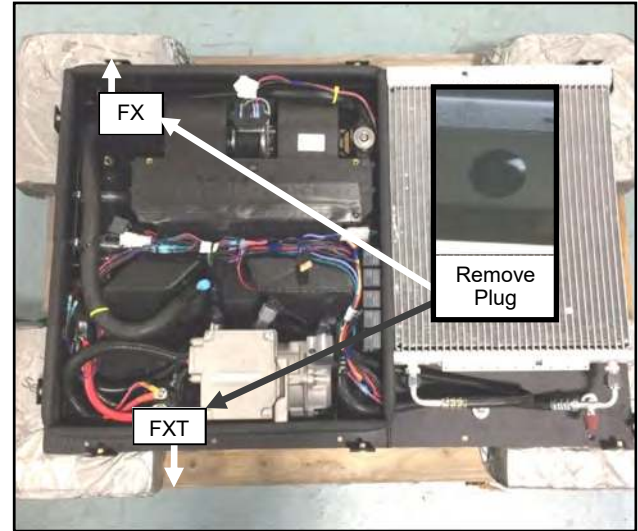

Fig. 1.1 (Remove dome plug from A/C Unit)
- 1.1 Before removing the A/C Unit from shipping pallet, installation of the (3) related A/C Unit harnesses must be completed. First remove dome plug on the side of the A/C Unit per Fig 1.1.